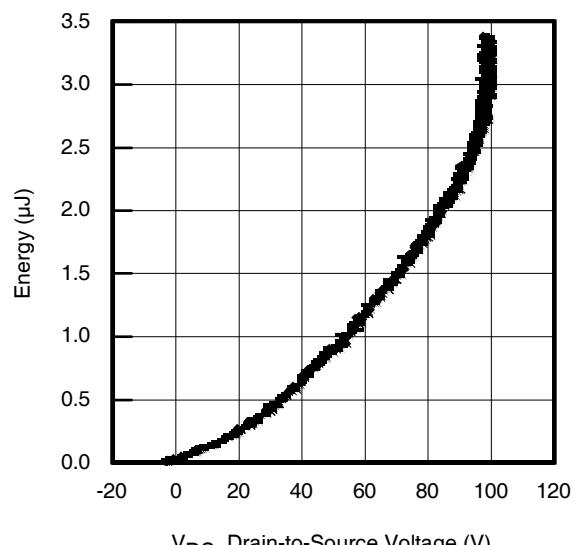

Fig 11. Typical COSS Stored Energy
| $C_{oss \text{ eff. (ER)}}$ | Effective Output Capacitance (Energy Related) | — | 560 | — | | $V_{GS} = 0V, V_{DS} = 0V \text{ to } 80V$ ⑥, See Fig. 11 |